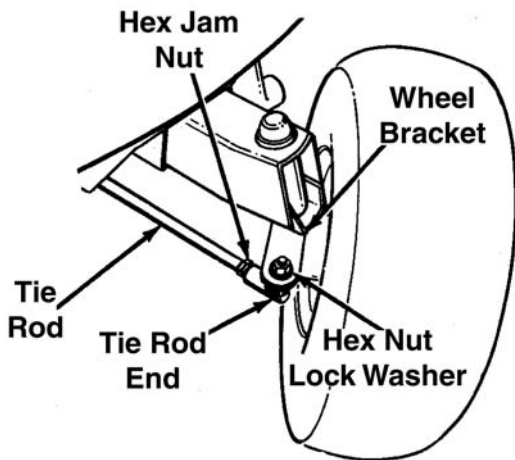

Figure 7-47. Units With Adjustable Tie Rods
1. Remove the hex nut and lock washer, and drop the tie rod end from the wheel bracket. Figure 7-47.